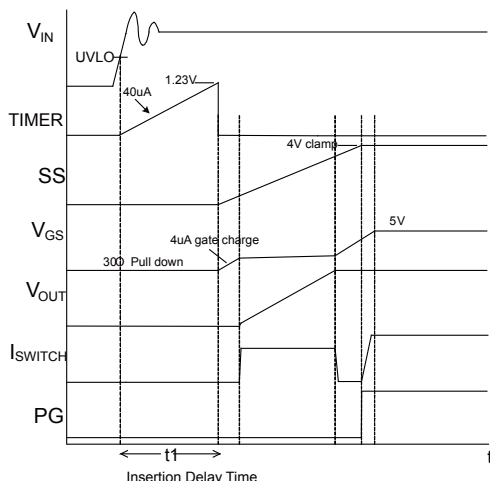

Figure 5—Start-Up Sequence
For hot-swappable applications, the input of the MP5021B can experience a voltage spike or transients during the hot-plug procedure. This spike is caused by the parasitic inductance of the input trace and the input capacitor. In order to stabilize the input voltage, an insertion delay is implemented before the MP5021B main FET is turned on. TIMER charges the external capacitor (C_T) through a 38.5 μA constant current source when the input voltage reaches the UVLO threshold (see Figure 5). The insertion delay finishes when the TIMER voltage reaches 1.23 V. The capacitance of C_T can be determined using Equation (2):